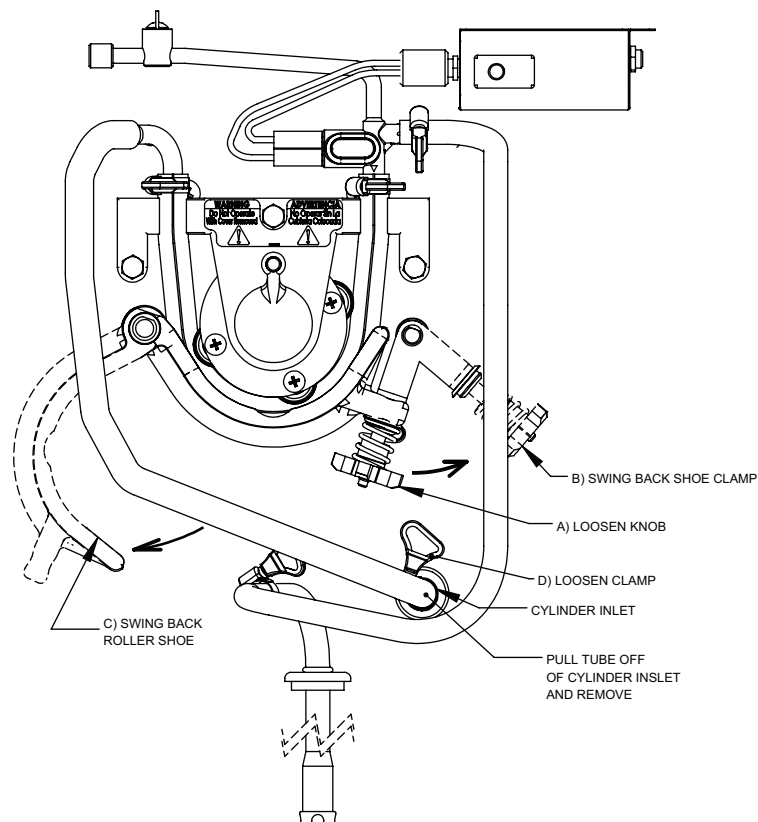

Figure 8-7 MTS (LEFT SIDE*)
21. Refer to figure 8-7. Install the MTS hose assembly by first placing the clamp next to the braided hose, above the roller bearing support on the right side and push hose into slot. Place the transfer hose under the rollers. While holding the pickup tube stretch the hose so the left hand clamp is above the roller bearing support and push the hose into the slot.
22. Check to ensure the transfer hose is straight and centered on the roller assembly making sure the locating line is facing out. The line should be in the same position at the inlet and outlet guides of the roller bearing support, as shown in figure 8-7.
25. Plug the mix sensor plug into the port in the top center of the cabinet figure 8-7.